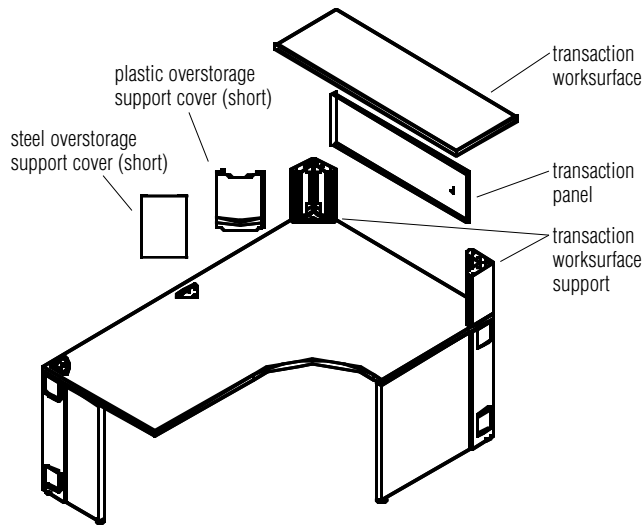

Figure 1
1. Remove appropriate worksurface grommets and covers. Remove the two outside 5/16-18 x 2 short-head bolts from the bolt cluster that secures the worksurface to the leg supports. The center bolt does not require removal and can be loosened approximately 1/8" and left in place. Repeat on other end of worksurface (Figure 1).